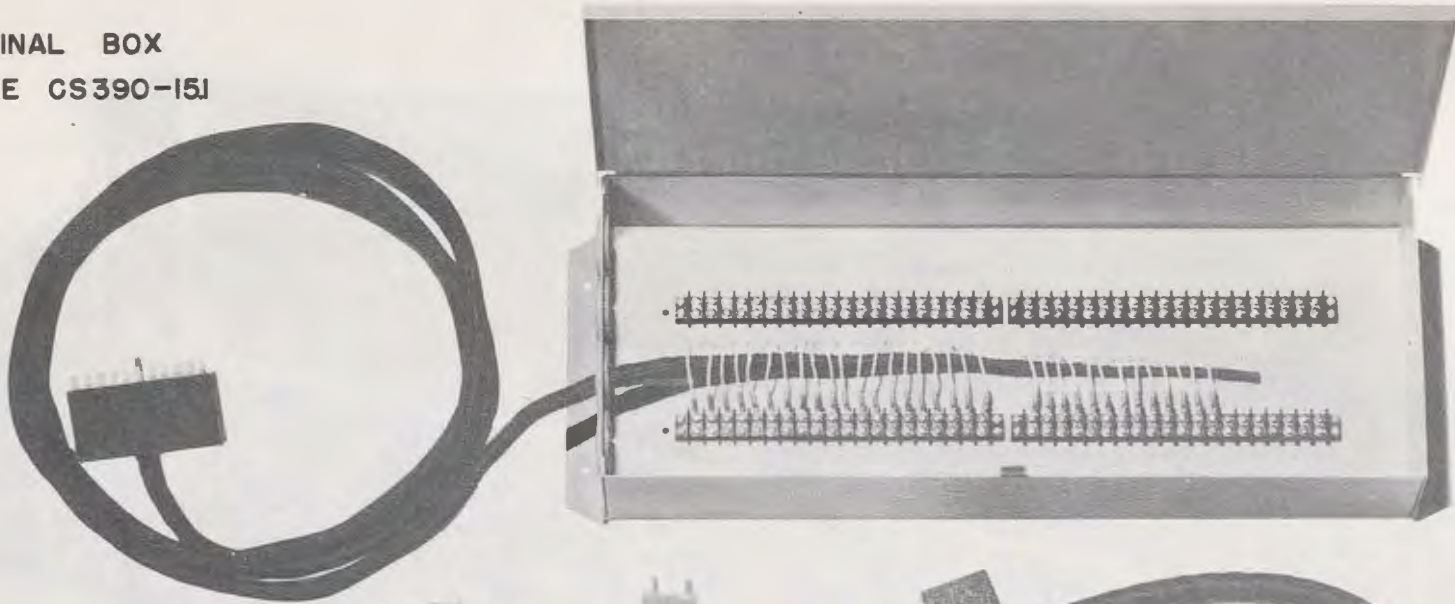

Figure 4. Radio receiver type F3, front view.
Radio receiver type F3 (fig. 4) is similar in appearance and functioning to radio receiver type CW3 with the exception that this receiver circuit consists of an r-f amplifier stage, a mixer and h-f oscillator stage, an i-f amplifier stage, detector and automatic-volume-control (a-v-c) stage, and an output and noise suppressor stage. This receiver also contains its
16. CONTROLS ON RADIO RECEIVER TYPE F3 (fig. 4).